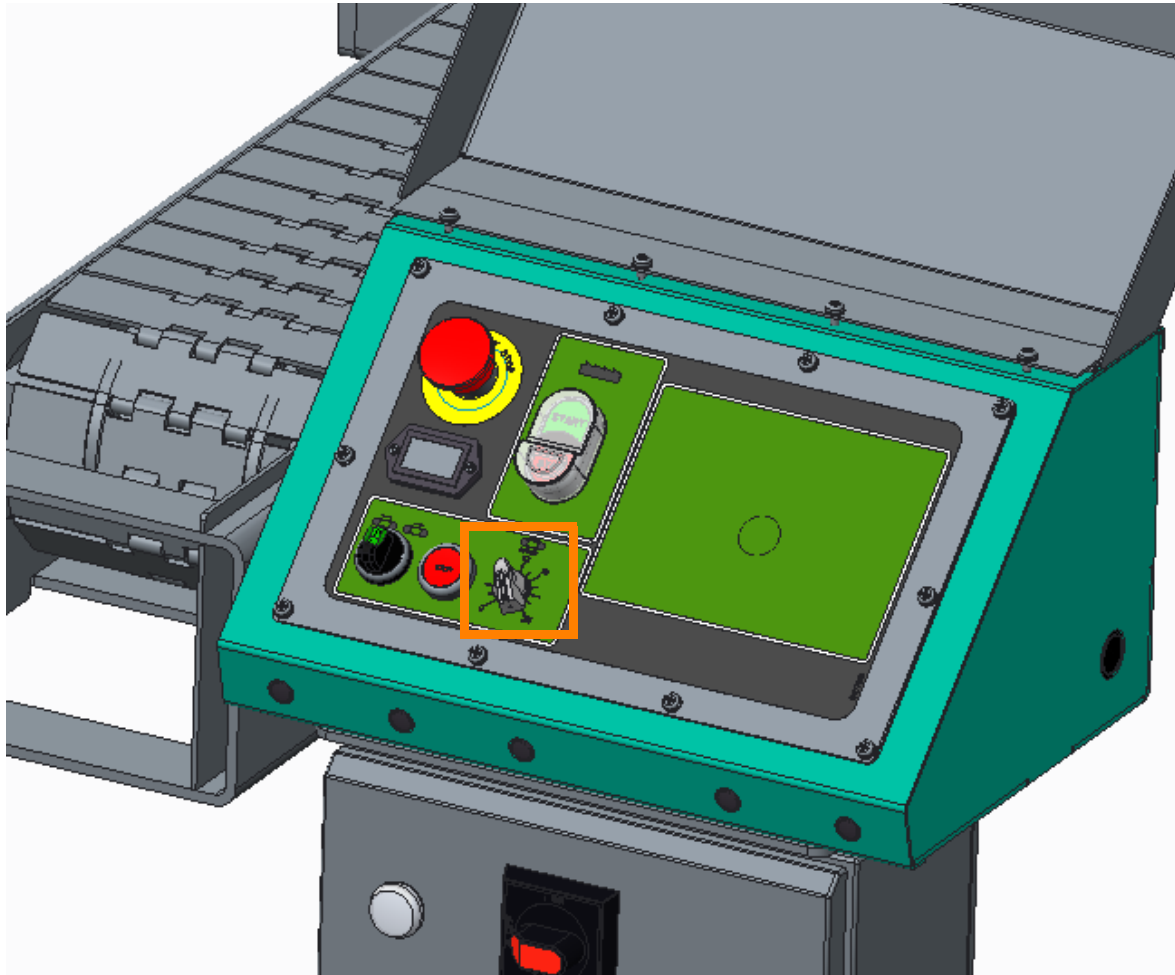

FIG. 2-23
**See Figure 2-23.** The speed at which the feed track moves is adjustable. The feed track speed switch, located on the control panel, allows the operator to adjust the feed rate